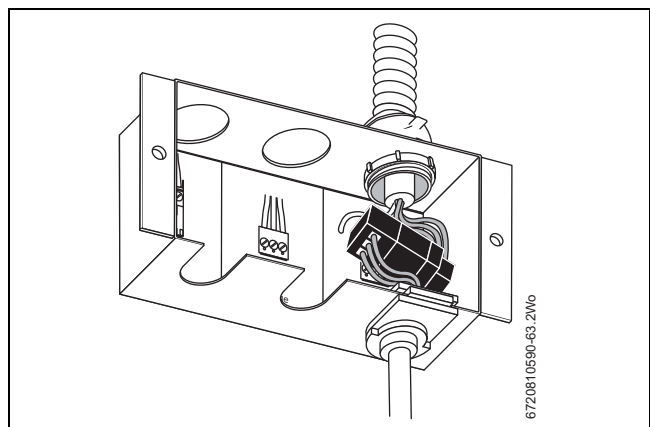

Fig. 48 Cable connected (external pump)
- ▶ Insert cable into the junction box as shown in Fig. 48.